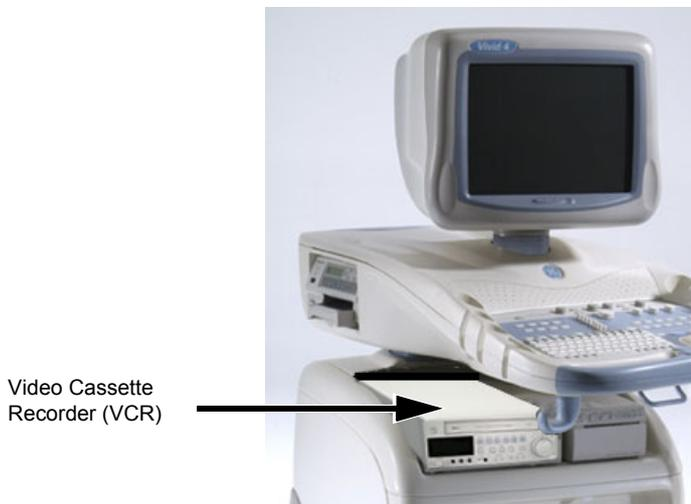

Figure 8-106 Mitsubishi VCR Mounted on Vivid™ 4 Scanner
- 1.) Place the VCR on the *left* side of the Vivid™ 4 ultrasound unit's top surface (below the control console - as shown in Figure 8-106 below) and next to the B/W Printer, if present, allowing sufficient room to access the cables at the rear of the VCR.
- 4.) Remove the VCR from the *left* side of the Vivid™ 4 ultrasound unit (taking it out from below the control console and from beside the B/W printer, if present) - refer to Figure 8-106 on page 8-119.